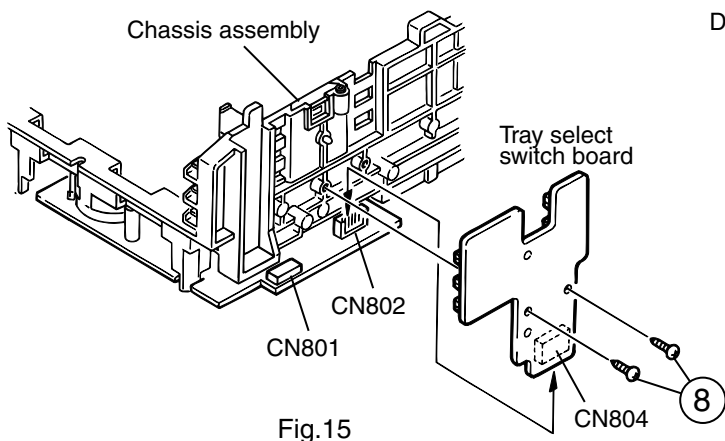

Fig.15
3. Remove the two screws 8 retaining the tray select switch board(See Fig.15).
### ■ Removing the can unit (See Fig.15~18 )
2. While turning the cam gear L, align the pawl "N" position of the drive unit to the notch position(Fig.15) on the cam gear L.